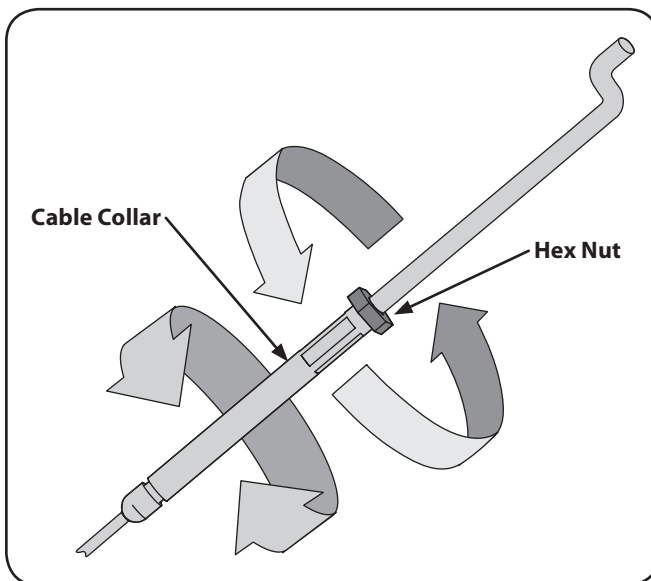

Figure 3-8
2. Adjust either the forward or reverse clutch cable by loosening the hex nut. See Fig. 3-8.
3. Turn the cable collar section one or two turns to increase or decrease tension on the cable. See Fig. 3-8.
4. Retighten the lock nut against the cable collar. See Fig. 3-8.